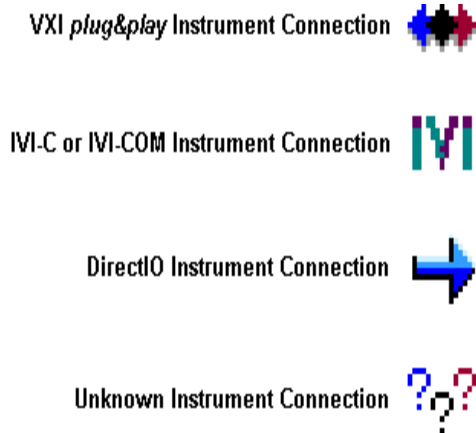

Figure 8 Iconic Representations of the Instrument Sessions
- 7 If you cleared the Code Paste Tool check box, the connection will be created as described in the summary box you see displayed. Press **Finish**. The sessions are represented iconically in Instrument Explorer as shown in Figure 8.